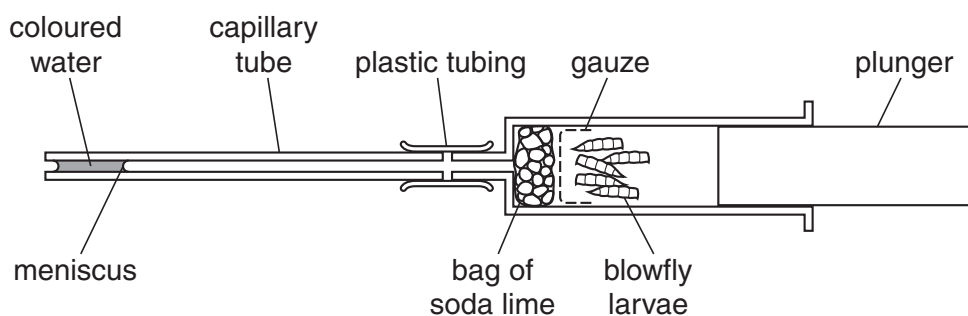

Fig. 1.1
- about 200 mm length of 0.4 mm internal diameter capillary tubing with a short length of rubber or plastic tubing to make an airtight seal with the syringe, as shown in Fig. 1.1.